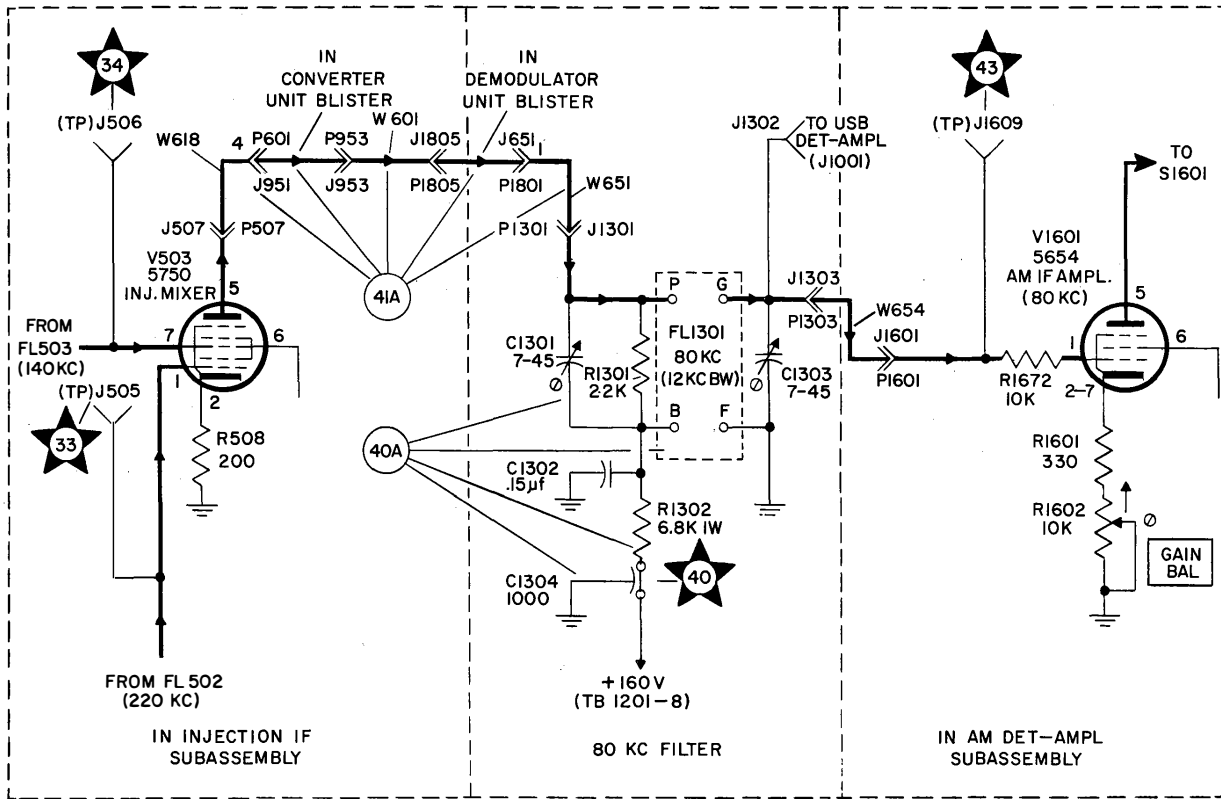
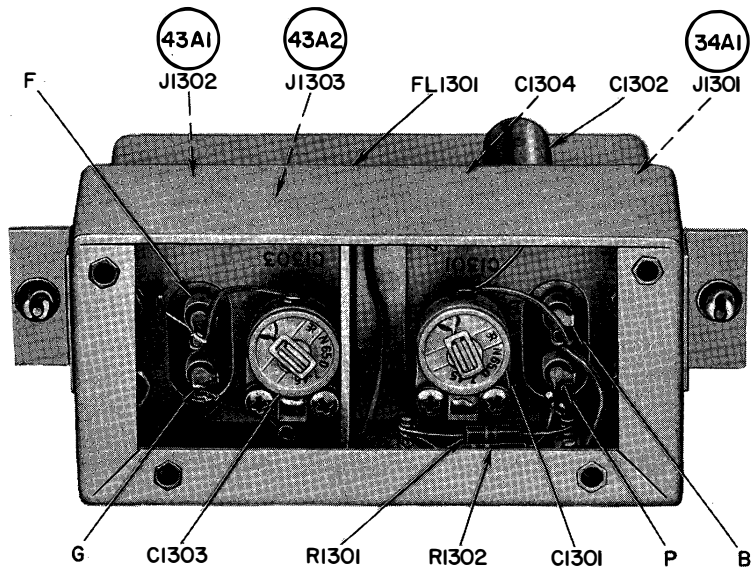

Figure 5-24. 80 Kc Filter, Functional Schematic Diagram
Figure 5-25. 80 Kc Filter, Location of Parts and Test Points
*a.* DIAGRAMS.— Figure 5-24 is a functional schematic diagram of the 80 kc filter, and figure 5-25 shows the location of parts and test points. Refer also to figure